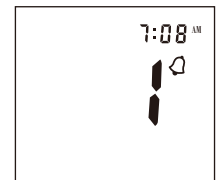

Fig.1
7. To set the first alarm, press the **M** button (y). If you press **S** button (n), it will move to health management alarm setting (step 11). To change the hour, press **S** button. To enter the hour and move on to change the minutes, press **M** button. To change the minutes, press **S** button. To enter the minutes and move on to the second alarm setting, press the **M** button. (Fig.1)